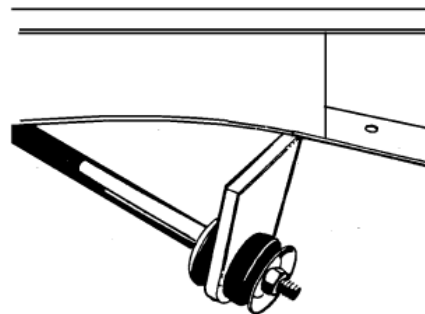

Figure 9- Strut Rod Install
12. Install the strut rod onto the control arm. Now, assemble onto the strut rod the large rubber bushings, including the cupped washers, and the strut mount plate. Be certain to fully tighten the nut on the strut rod to its fully seated position. (See **Figure 9**) There are two rubber bushing sets available; the standard replacement and the improved set. We recommend the improved set, as it provides more stability to the front suspension. The Pinto and Mustang strut rods are different lengths. We recommend the use of Pinto strut rods, as they are bent less than the Mustang strut rods. You will find that with either strut rod the strut rod plate does not line up with the bottom of the frame rail. The strut rod must be heated in the elbow area and bent outward. The rod is bent outward until the strut mounting plate lines up to the frame rail. You will find that because the Pinto strut rod is initially bent less and requires much less bending. The strut rod will act as an alignment fixture while you tack weld the mount plate in place, then tack weld the gusset in place. Remove the strut rod, bushings, and arm, and finish welding to the frame and each other.